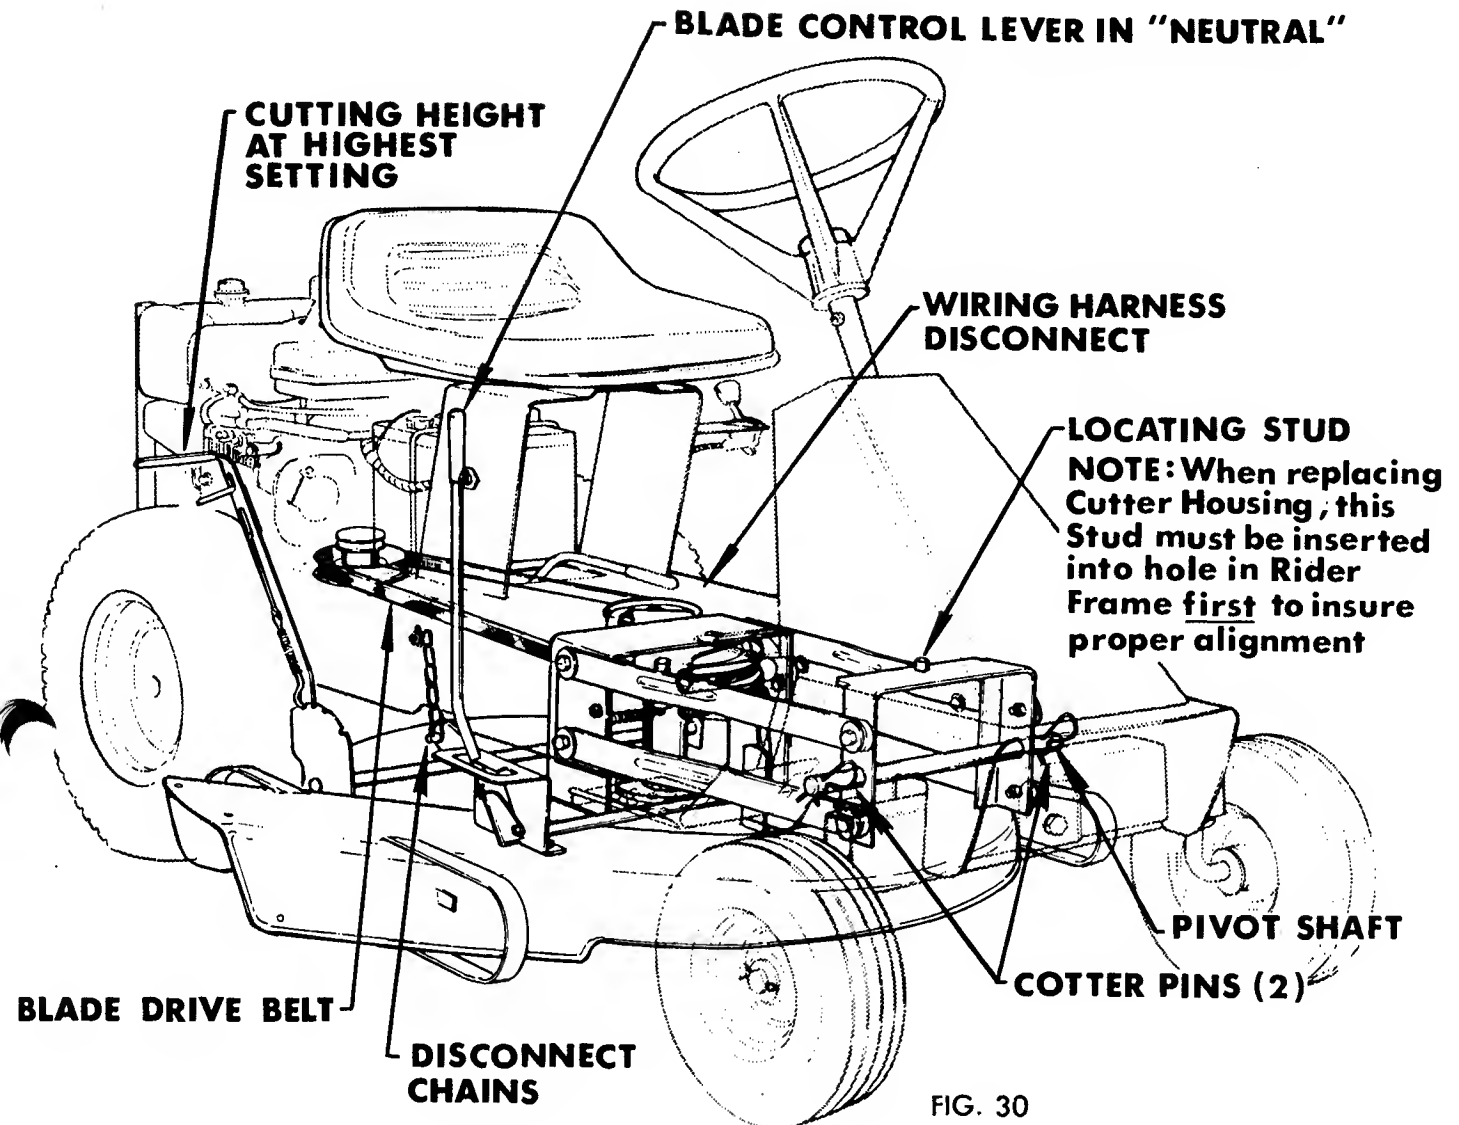

FIG. 30
- Disconnect the Wiring Harness. See FIG. 30